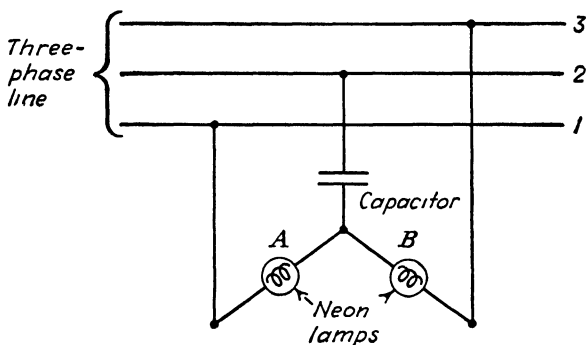

FIG 22-52 Phase-sequence indicator connected to three-phase line. Indicator consists of a capacitor and two neon lamps, A and B, connected in Y.
the phase sequence is to be determined. A schematic diagram of the connections is shown in Fig 22-52.
**Operation.** When the phase-sequence indicator is connected across a three-phase line as shown in Fig 22-52, an unequal distribution of voltage occurs in the three arms of the Y network. This makes the voltage